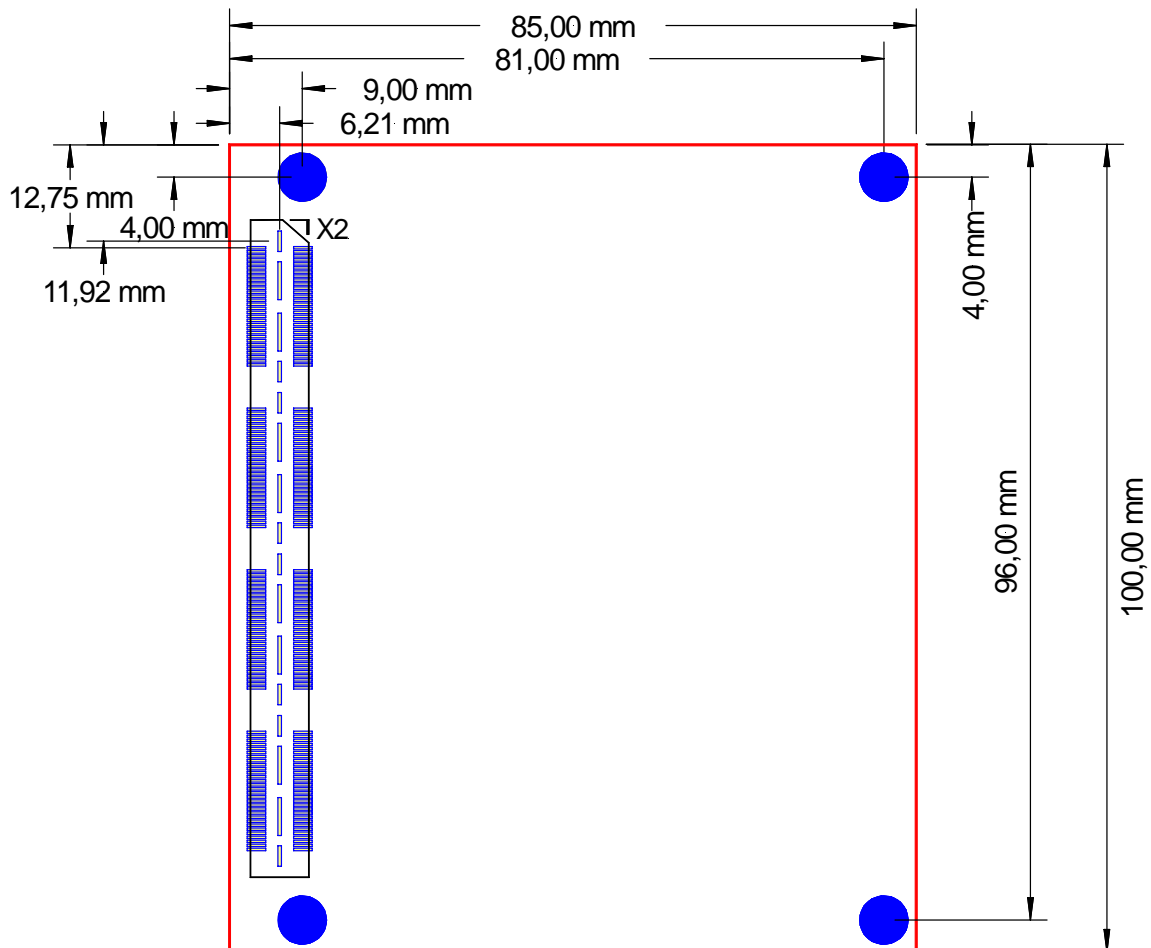

Figure 7: Physical Dimensions
The physical dimensions of the phyCORE-Z500P(T) are represented in *Figure 7*. The module's profile is approximately **11.4 mm** thick, with a maximum component height of **5.0 mm** on the bottom (connector) side of the PCB and approximately **5.0 mm** on the top (CPU/SCH) side. The board itself is approximately **1.4 mm** thick.